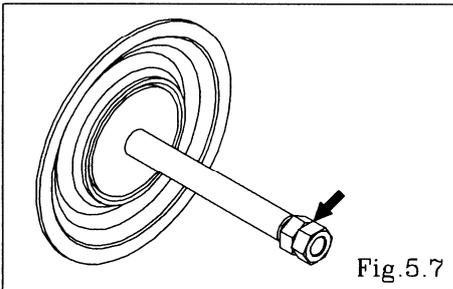

Fig. 5.7
- Fix a double nut to one end of the center rod and take the diaphragm and center disk off the opposite end. [Fig.5.7] Be careful not to scratch or score the center rod.